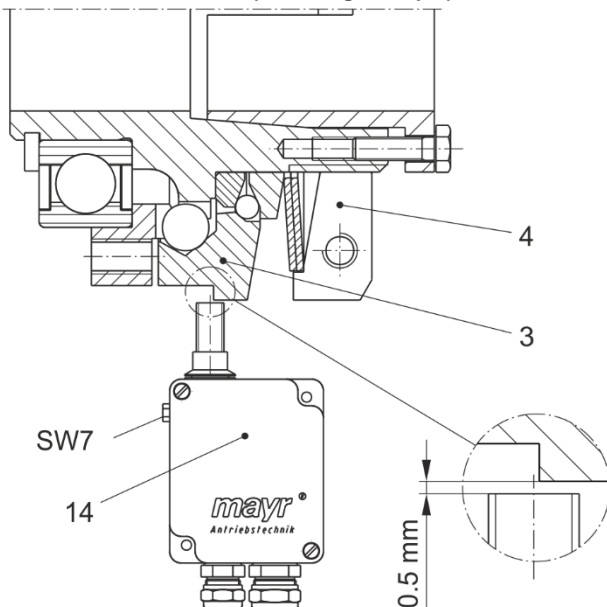

Fig. 13
The contactless limit switch is to be mounted onto the switching edge of the clutch (Fig. 13) so that no signal changes are caused during normal operation on the limit switch by the usual clutch run-out errors.
- Adjust the switch distance for the contactless limit switch acc. Fig. 13. The distance of the thrust washer (3) to the switching point can be adjusted using a hexagon head screw, wrench opening 7.